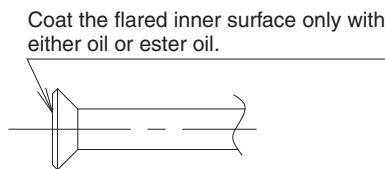

Fig. 20
- When making a flare connection, coat the flared inner surface only with either oil or ester oil. **(Refer to Fig. 20)** Then, turn the flare nut 3 to 4 times with your hand and screw in the nut.